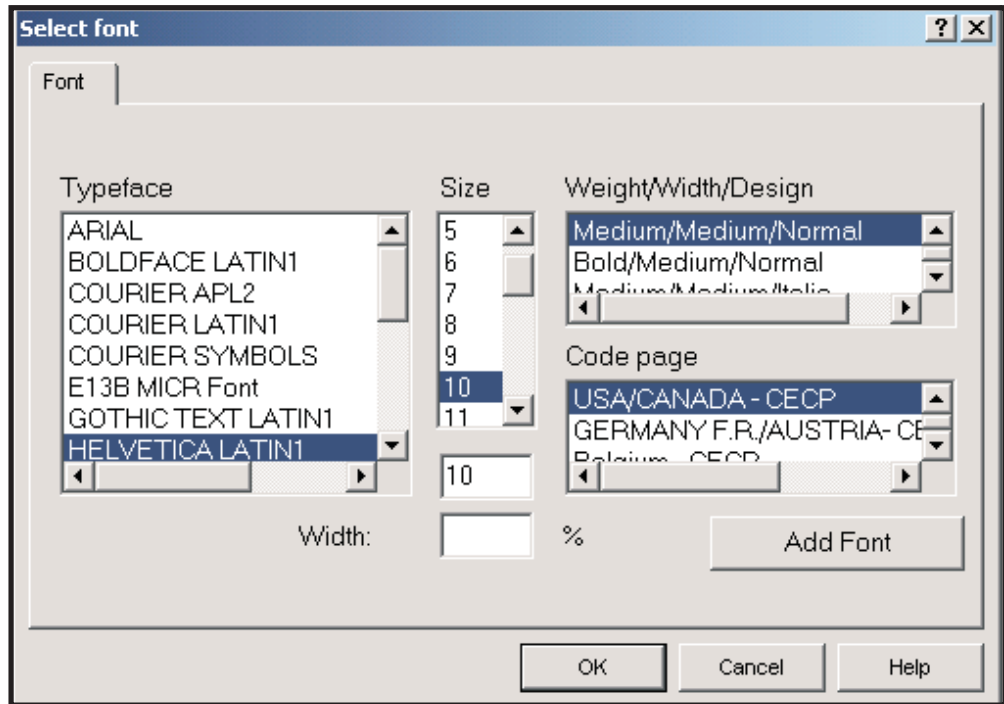

Figure 67. Select Font Dialog
- To enter the text block "Customer Number," select the Text tool:  Starting at X = .65 inches and Y = 2.90 inches, draw a box with a width of 1.2 inches (use the ruler at the top to approximate the width) and a height tall enough to fit between the two lines you drew. When you release the mouse button, the **Select font** dialog is displayed, as shown in Figure 67 on page 174.